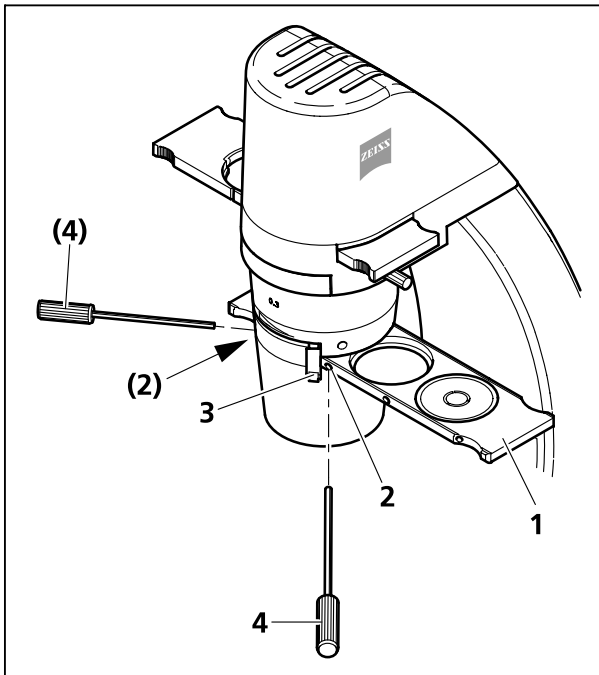
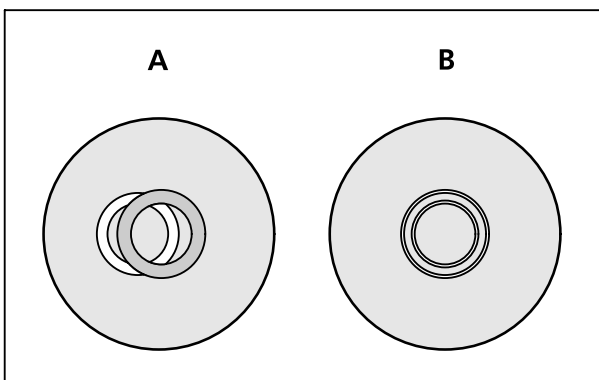

Fig. 15 Inserting the slider
Fig. 16 Centering the phase stop
- Open the aperture diaphragm completely by means of the lever (Fig. 15/3) on the condenser.
- Introduce the slider (Fig. 15/1) into the condenser so that the phase stop position suitable for the objective used (Ph 0, Ph 1 or Ph 2) is in the light path. Pay attention to the correct detent position.
- Check the centering of the phase stop according to the drawing in Fig. 16. To this end, remove one eyepiece and replace it by the diopter.
- Center the phase stop, if necessary (Fig. 16/A), by turning the two adjusting screws (Fig. 15/2) of the corresponding slider position by means of the two Allen keys SW 1.5 (Fig. 15/4) until the image corresponds to that shown in Fig. 16/B.